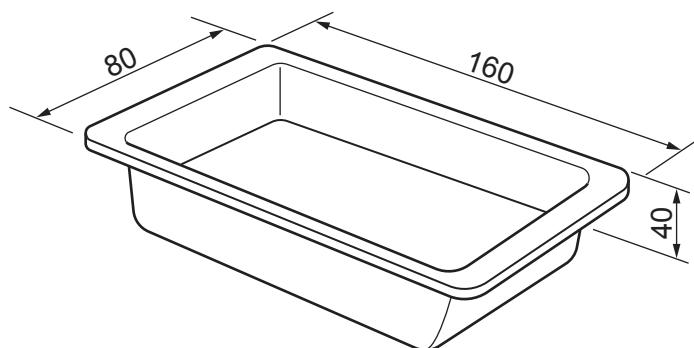

**Fig. 2.1**
- 2 Fig. 2.1 shows details of an adjustable desk lamp.